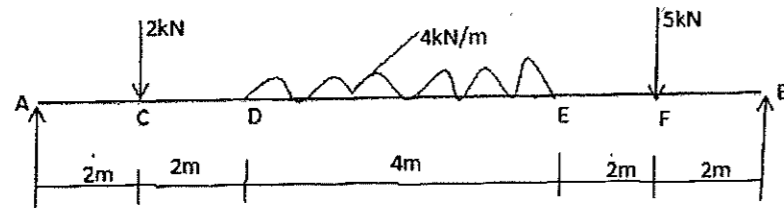

Figure 12(a)
- (b) (i) Derive a relation for change in length of a uniformly varying circular bar subjected to axial load. (8)
- (ii) Derive the relationship between modulus of elasticity and modulus of rigidity. (5)
12. (a) Draw SFD and BMD and find the maximum bending moment for the given beam. (Figure 12(a))